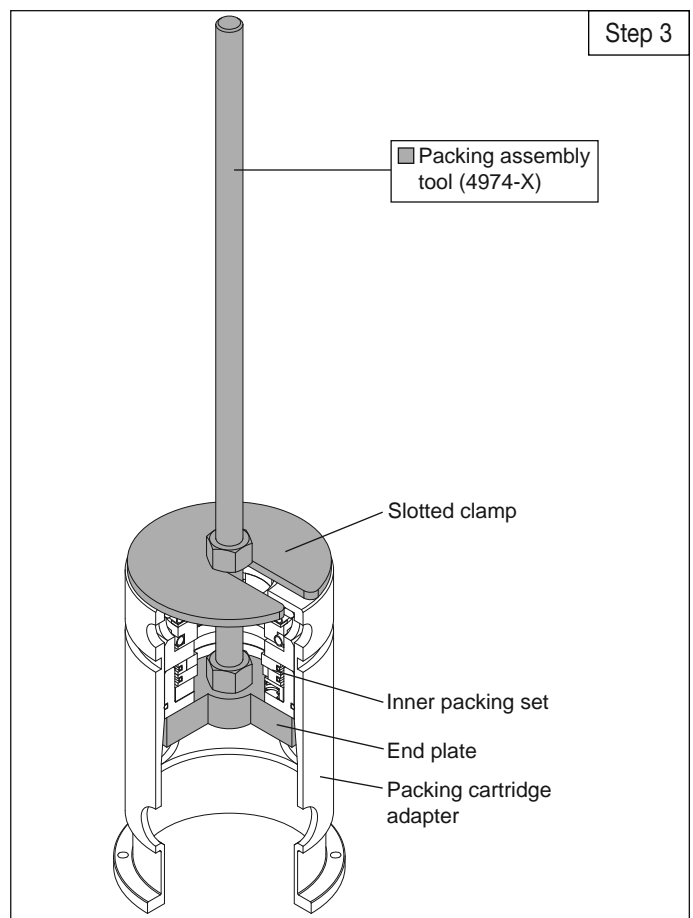

Figure 4.6E : Packing assembly
- d. Tighten the nut on the rod of the tool until the inner packing set is fully drawn into the packing cartridge adapter. See Figure 4.6E.